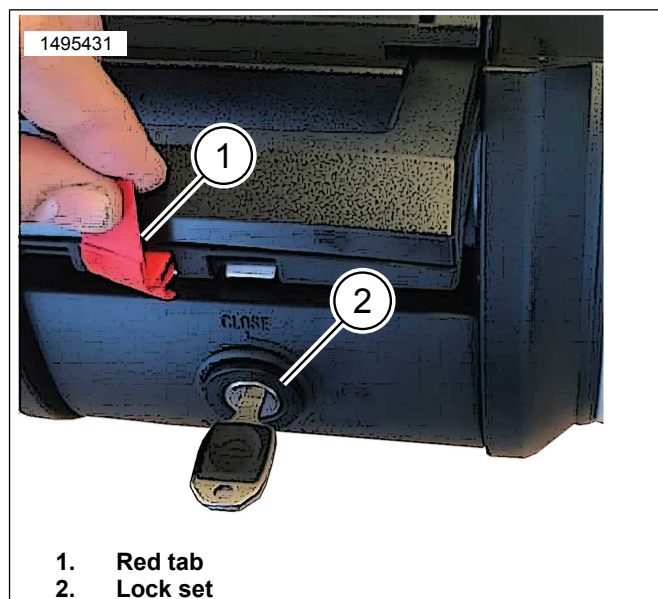

Figure 12. Top case Handle
- See Figure 12. Remove red tab (1).